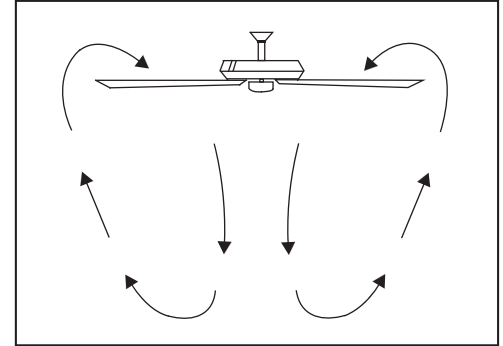

Figure 13
**Warm weather** - (Counter-Clockwise direction) A downward air flow creates a cooling effect as shown in Figure 13. This allows you to set your air conditioner on a higher setting without affecting your comfort.